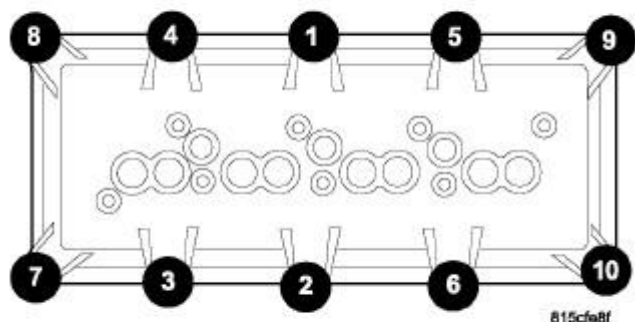

Fig. 75: 5.7L/6.1L COVER TORQUE SEQUENCE
10. Remove cylinder head cover bolts as shown in **Fig. 75.**